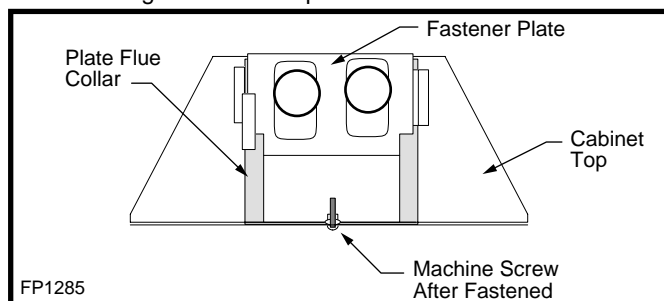

Fig. 14 Use machine screw to bolt fastener plate in place.
4. Put the machine screw back into the fastener plate. Bolt the plate until it is locked. (Fig. 14)